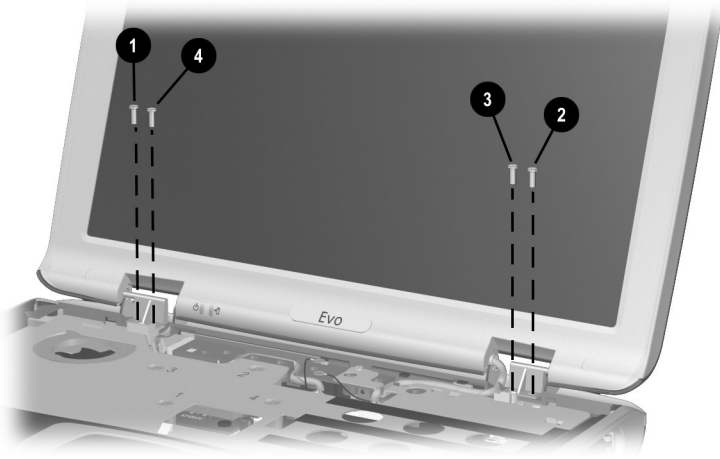

Figure 5-24. Installing the Display Screws
When installing the display, install the screws in the ❶, ❷, ❸, ❹ sequence shown in the Figure 5-24.